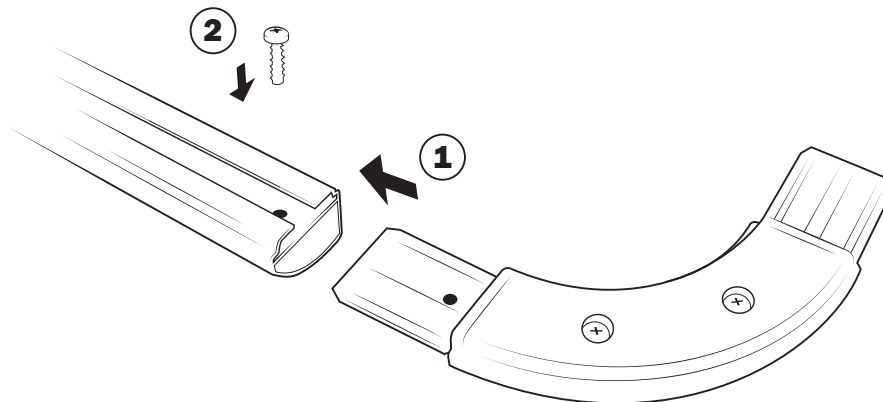

Figure 3
3. Insert corner pieces into the Rails (Fig. 3 #1) and secure with the supplied screws (Fig. 3 #2).